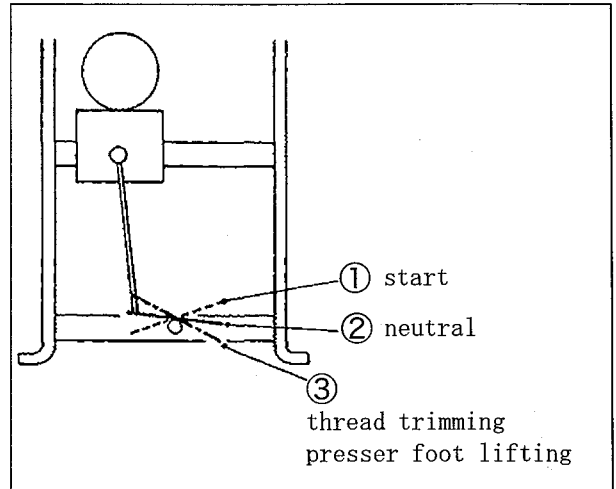

Fig. 18
- (1) Heel back the pedal to raise the presser foot.
(Fig. 18 ③)
- (2) Place a fabric under the presser foot and toe down the pedal. (Fig. 18 ①)
- (3) Release the pedal. (Fig. 18 ②)
- (4) Heel back the pedal. (Fig. 18 ③)
- (5) Release the pedal to position ②. (Fig. 18 ②)